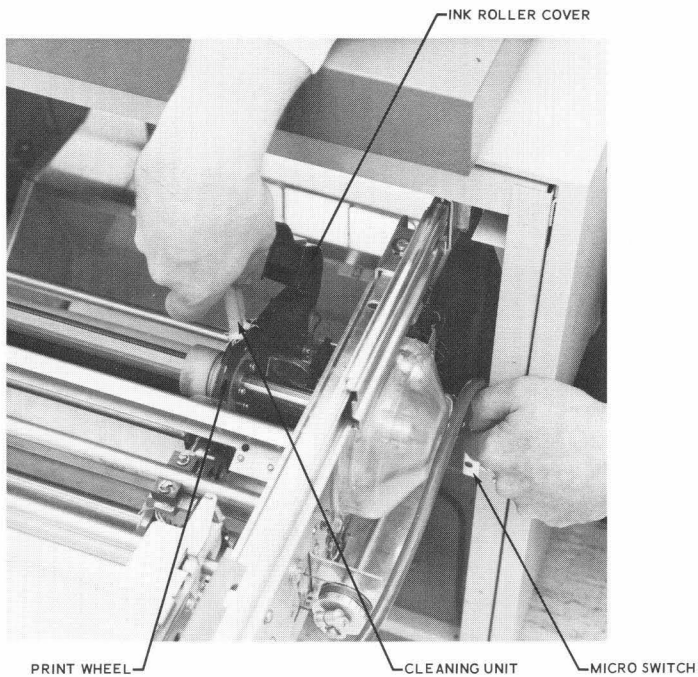

Figure 28. Cleaning Print Wheel.
4. Hold the ink roller cover away from the print wheel and then hold the MSL cleaning unit head (cleaning unit supplied with MSL) against the rim of the print wheel (see Figure 28).
5. Depress the microswitch in the rear panel latch. The print wheel will rotate as long as the switch is depressed (see Figure 28).